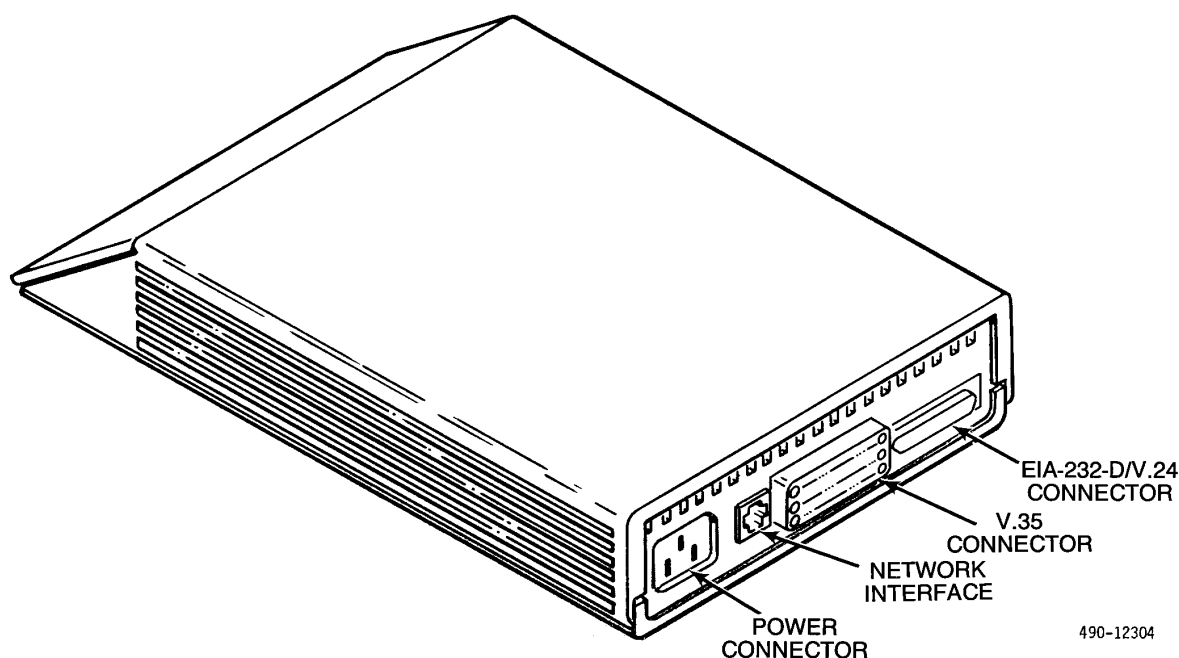

Figure 4-1. Model 3510 DSU, Rear Panel
4. At the rear panel of the DSU (Figure 4-1), insert the socket (female) end of the power cable into the POWER receptacle. Ensure that the connector is fully inserted. Connect the other end to the ac outlet.
The Model 3510 DSU's rear panel contains a miniature universal service ordering code (USOC) type RJ48S jack for connecting your DSU to the digital network (see Figure 4-1). Purchasers in the United States receive a modular telephone cable (D8W-87) with each DSU, with identical connectors on both ends. Canadian purchasers must order another cable (Feature Number 3000-B1-006) with a USOC-type RJ48S connector on one end and a 6-pin connector on the other.